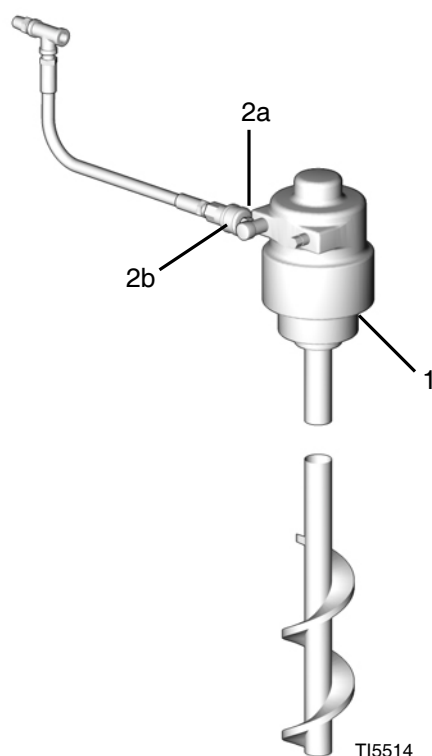

FIG. 3 Agitator Kit
1. See FIG. 3. Install agitator (1) in drum.